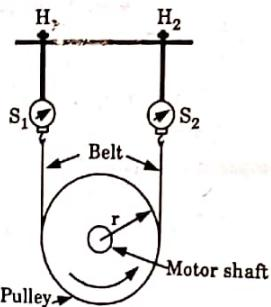

Fig. 3.15.1. Brake test on a DC motor.
- For a DC motor, a brake test is carried out as illustrated in Fig. 3.15.1.